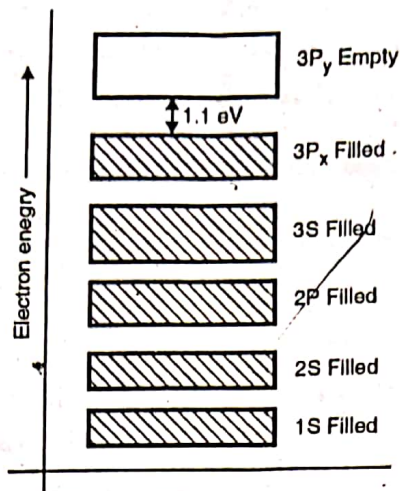

Fig. 2.4.4 : Energy bands in Silicon
- The energy band diagram of Silicon is shown in Fig. 2.4.4.